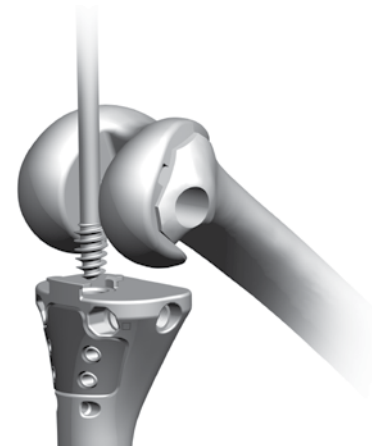

Fig. 44
- Use the Tibial Bushing Removal Tool to remove the tibial bushing from the tibial plate stem (Fig. 44).